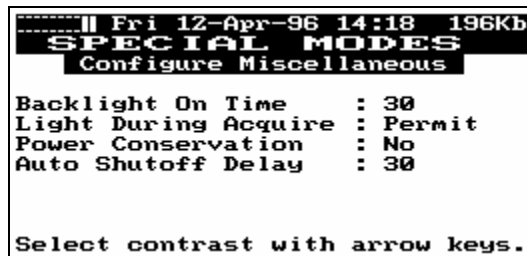

Figure 14
**SM6 Miscellaneous.** After pressing the **[ENTER]** key, the screen will display the "SPECIAL MODES Configure Miscellaneous" banner. In the lower area of the screen are five fields. (See Figure 14).